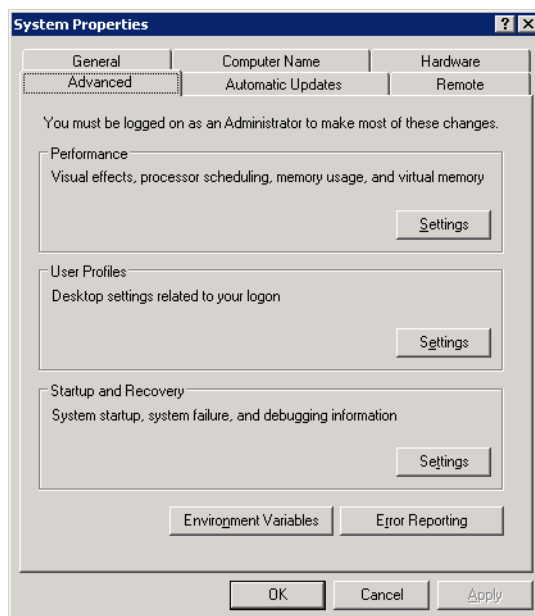

Figure 2-3 Advanced tab
2. Click the **Advanced** tab to display the dialog page shown in figure 2-3.